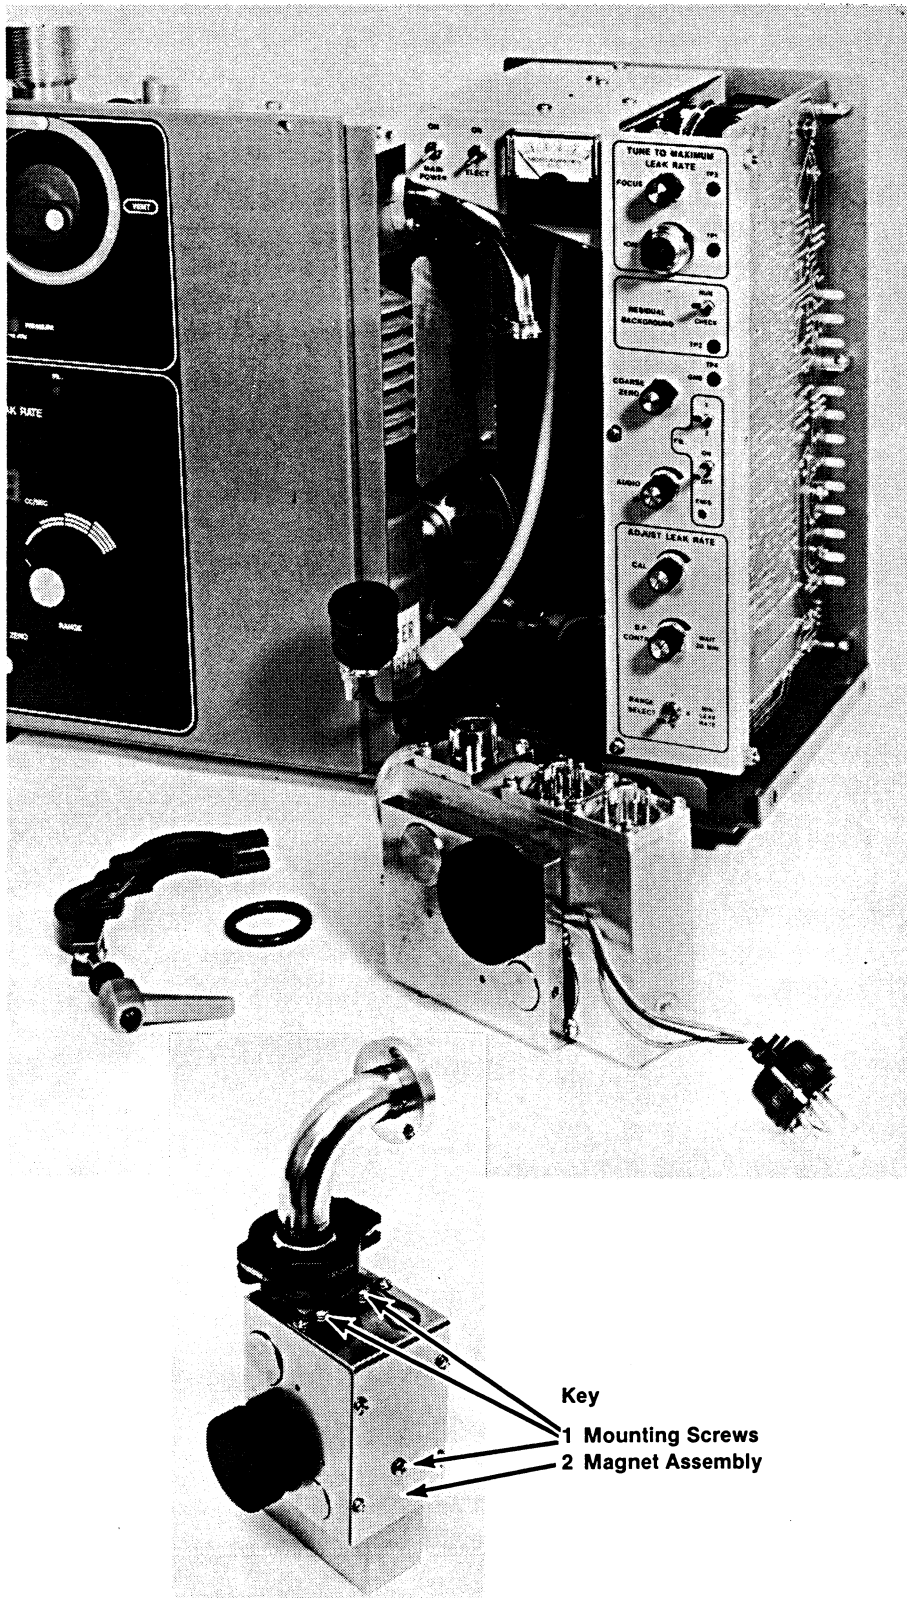
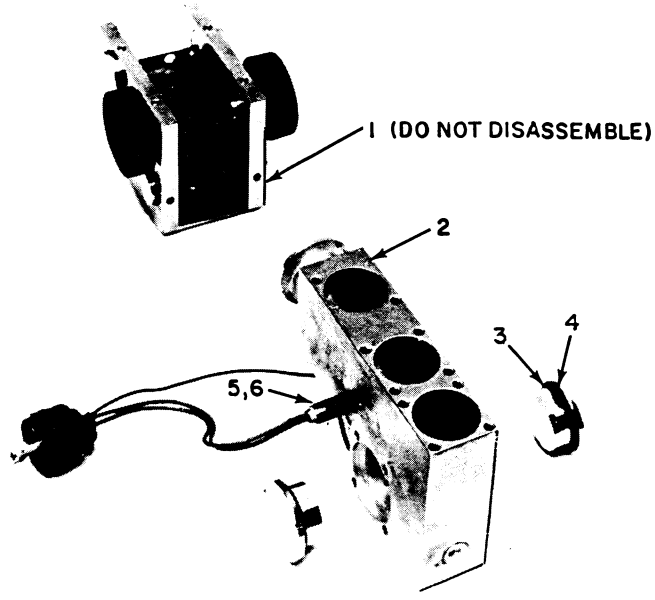
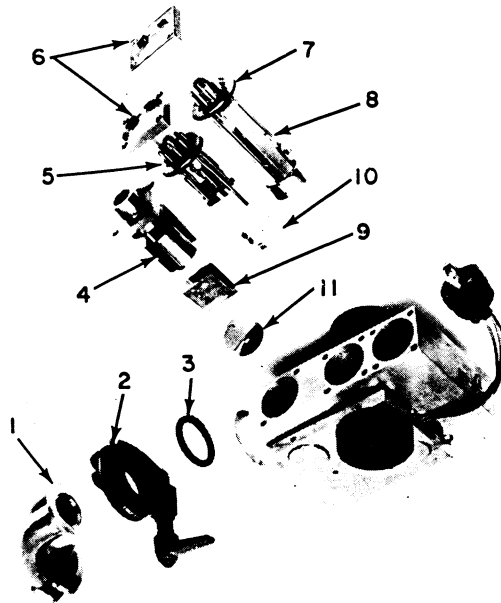

Fig. 4-12. Spectrometer Tube Removed From Cabinet
Fig. 4-13. Spectrometer Tube and Magnet Assembly
Fig. 4-14. Spectrometer Tube, Exploded View
5. Remove spectrometer tube from cabinet (Fig. 4-12).
6. Remove three mounting screws (1, Fig. 4-12) and take off magnet assembly (Fig. 4-13).
7. Slide heater (5) out of its recess in tube body (2).
8. Remove cold cathode gauge (4. Fig. 4-14), ion source (5) and preamplifier (8). Discard ion source, but handle other two parts by flanged-pin end only, to prevent contamination by skin contact.
9. Slip out baffle (11) between cold cathode gauge and ion source cavities. Carefully remove ground slip plate (10) from ion source cavity, using "shoe hook" or thin screwdriver.
10. Remove four Phillips-head screws on each side of spectrometer tube body (2, Fig. 4-13) and slip out both pole pieces (4). Discard O-rings (3).
2. Remove four screws that secure clamp (6, Fig. 4-14), then gently slide ion source (5) out of spectrometer tube body. Discard ion source.
2. Remove four screws that secure clamp (6, Fig. 4-14), then gently slide cold cathode gauge out of spectrometer tube body.